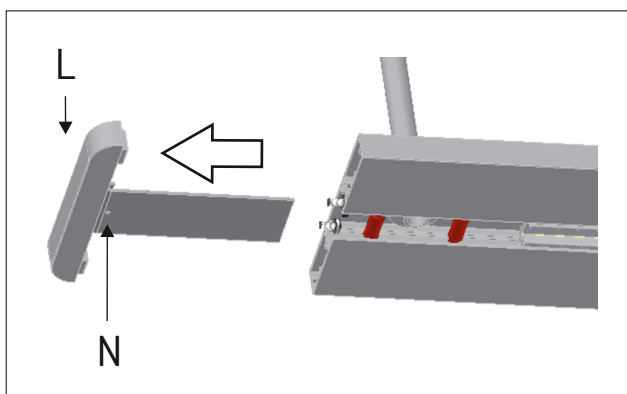

Figure 11
11 - Remove the side cover (L) from the track end by inserting the allen key through the hole (N) and loosening the stud bolt. Figure 11.